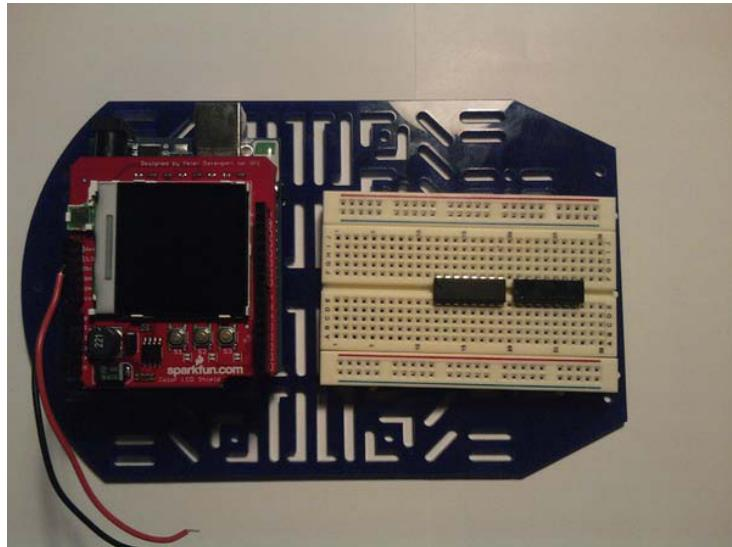

Figure 4-17. The H-bridge is connected first, and then the hex inverter is placed behind it.
3. Add the three terminal blocks to the breadboard. See Figure 4-17.